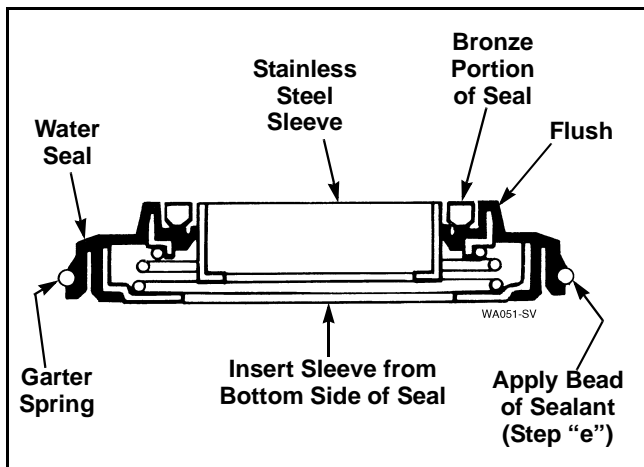

Figure 42
- c. Insert stainless steel sleeve into water seal from bottom side of the seal until the sleeve is flush with bronze portion of the seal. Refer to *Figure 42*.
- e. Carefully apply a small amount of No. 27615P Sealant (supplied in kit) around the outer edge of seal and tub (the area located just below the garter spring). Refer to *Figure 42*.